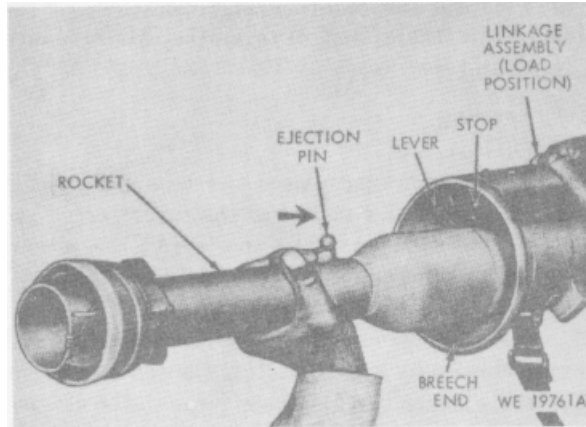

Figure 2-5. Loading the launcher
Caution. When loading the rocket into the launcher, depress the ejection pin (fig. 2-5) with the fingers until the pin is in the bore of the launcher. Make sure that the pin is pointed downward or to the side. Failure to hold the ejection pin depressed, while loading the rocket, may result in the pin coming in contact with the breech end of the launcher tube and thereby
(3) Move the control handle of the launcher forward to the "LOAD" position (fig. 2-5). Remove the safety band from the fuze, and carefully push the rocket into the launcher tube until the lever engages the continuous groove in the support ring. Two spring-loaded stops will properly position the rocket inside the launcher.